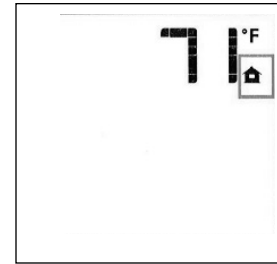

Figure 43. Burner shut-down
- Press the ON/OFF Key. The display will show only the room temperature and icon. At the same time, the Receiver will deactivate the call for heat and the burner will shut down. Fig. 43. A single "beep" from the Receiver will confirm reception of the command.